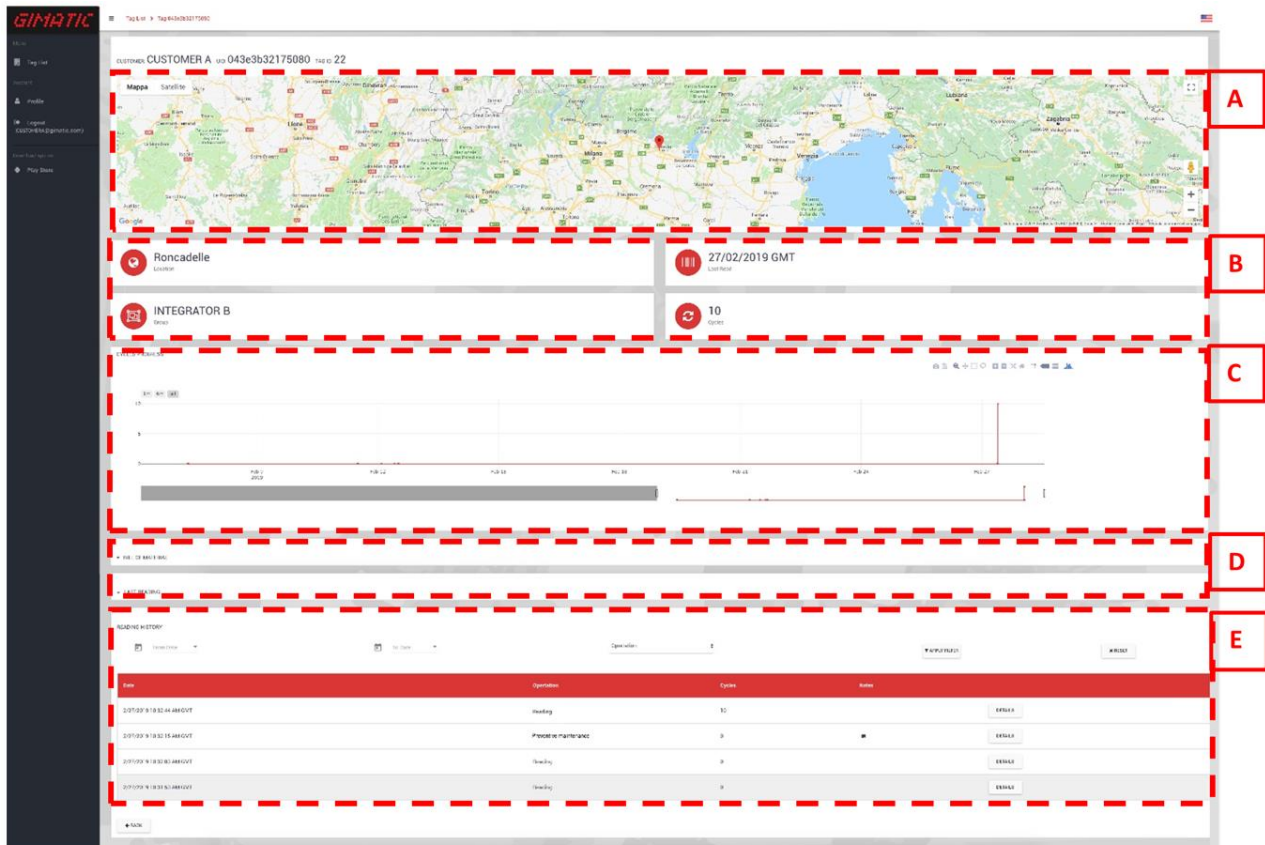

Figure 35 – TAG details
- **DETAILS:** clicking on it, it will appear another window as can be seen in *Figure 35*.
Opening the page concerning TAG details, all the information about a specific TAG is available, like geolocation, fast information, chart with cycles progress, bill of material and all the readings done (*Figure 35*).